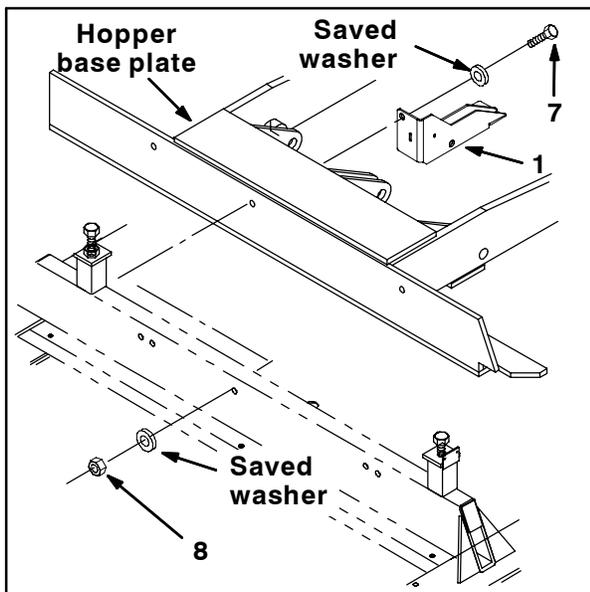
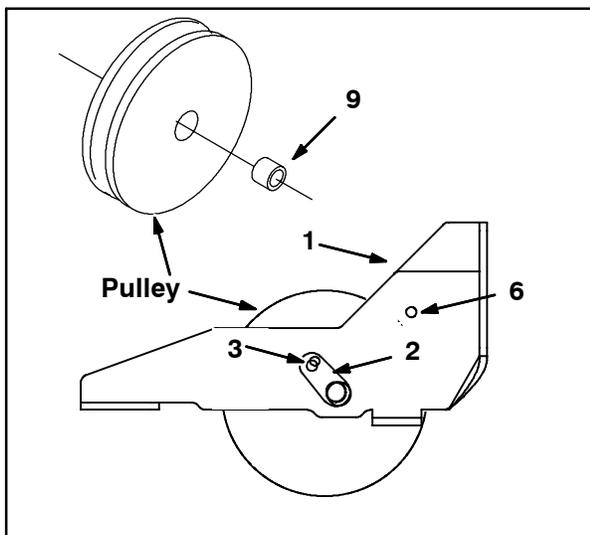
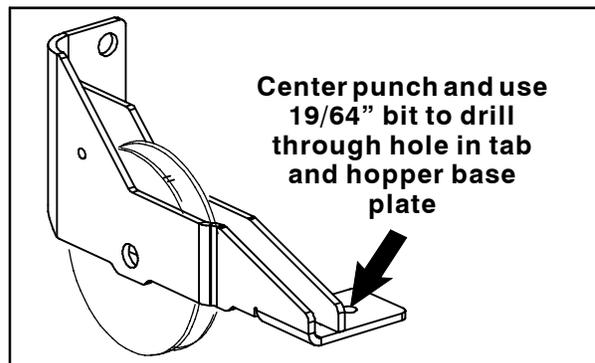

FIG. 8
FIG. 9
FIG. 10
7. Route the brush lift cable up through the pulley mount (1) and to the pulley side of the roll pin (6) while positioning the pulley mount onto the hopper base plate. Position the tab on the pulley mount in the slot in the hopper base plate. Refer to Fig. 8 and Fig. 9.
8. Use hex screw (7), the two saved washers from Step 5, and hex nut (8) to secure the pulley mount (1) onto the hopper base plate. Be sure edge of the pulley mount is 1/8" from the pin plate on the hopper base plate. Refer to Fig. 8.
9. Press the sleeve bushing (9) into the hole in the pulley. Refer to Fig. 9.
10. Position the brush lift cable between the pulley and the roll pin (6) and insert the clevis pin (2) through the 1/2" hole in the pulley mount (1) and the pulley. Refer to Fig. 9.
11. Use a hex screw (3) to secure the clevis pin (2) and the pulley to the pulley mount (1). Refer to Fig. 9.
12. Be sure the inside edge of the pulley mount (1) is still 1/8" from the pin plate on the the hopper base plate.
13. Center punch through the hole in the tab of the pulley mount (1) and use a 19/64" bit to drill through the hole in the pulley mount and through the hopper base plate. Refer to Fig. 10.
14. Use hex screw (4) and flat washer (5) to secure the tab of the pulley mount (1) to the hole drilled into the hopper base plate. Refer to Fig. 10.